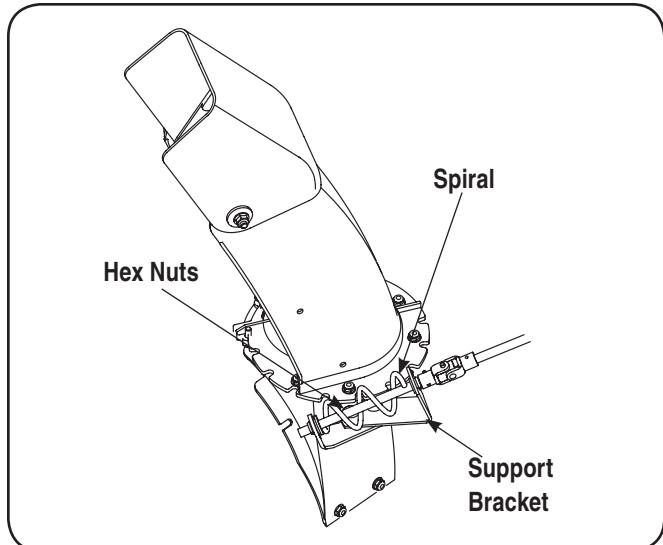

Figure 3-24
- Loosen, but do NOT remove the two hex nuts which secure the support bracket to the snow thrower housing. See Fig. 3-24.